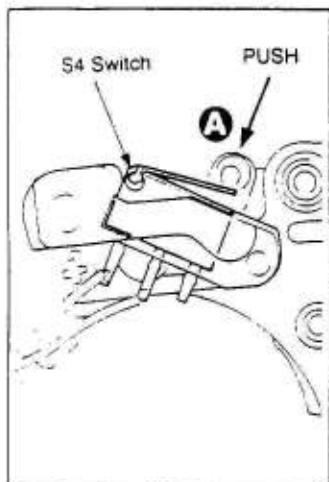

Fig.1 Back side view
1. Adjust so that the clearance between the contact of the S4 switch and the upper tip of the switch will be 0.1 to 0.4 mm when the wind-up stopper lever **A** is pressed fully. (See Fig. 1.)